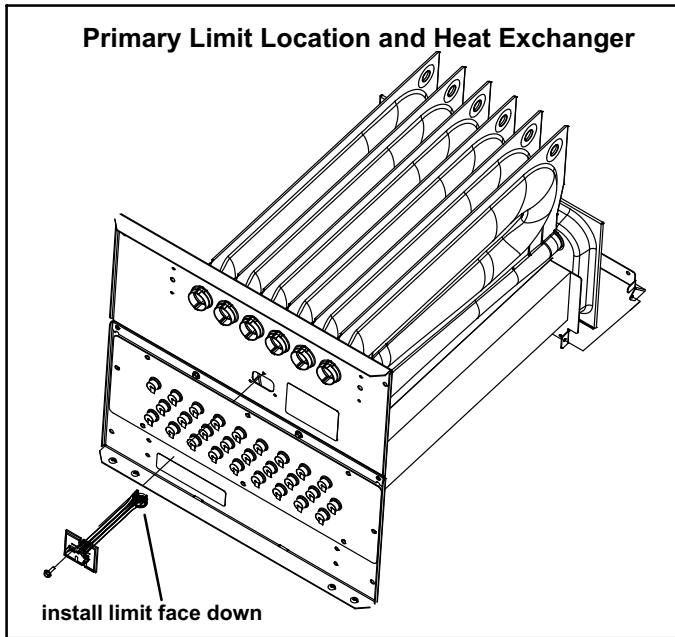

FIGURE 15
5. Duralock Plus™ Heat Exchanger (Figure 15)
Figure 15 shows the primary limit (S10) used on SLP99DFV units located in the heating vestibule panel. When excess heat is sensed in the heat exchanger, the limit will open. Once the limit opens, the furnace control energizes the supply air blower and de-energizes the gas valve. The limit automatically resets when unit temperature returns to normal. The switch is factory set and cannot be adjusted. In the event of restricted air flow, the integrated control will reduce firing rate and indoor blower airflow in 10% increments until a sustainable air flow is reached. If the furnace reaches 35% firing rate, and adequate air flow is not available, the furnace will shutdown and enter one hour watchdog. For limit replacement remove wires from limit terminals and rotate limit switch 90 degrees. Slowly remove from the vestibule panel.